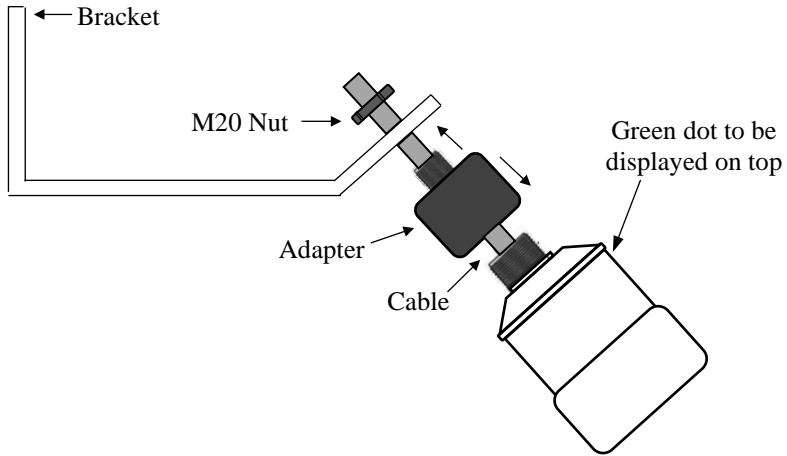

Fig.3
Mounting the sensor to the 45° angled bracket is done via an adapter and M20 nut, as shown in Fig.3:
- Ensure that the green dot has been positioned in the direction of the flow of the vessel, this will obtain optimum velocity readings that are available. Please refer to '**Fig.3**' in '**Chapter 2-Installation**' section on how to do this.